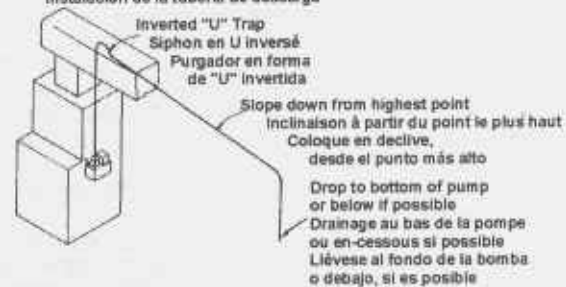

Fig. 4
- Run flexible tubing or pipe from evaporator drain into pump inlet. Be sure inlet piping is sloped downward to allow gravity flow (Fig. 4).